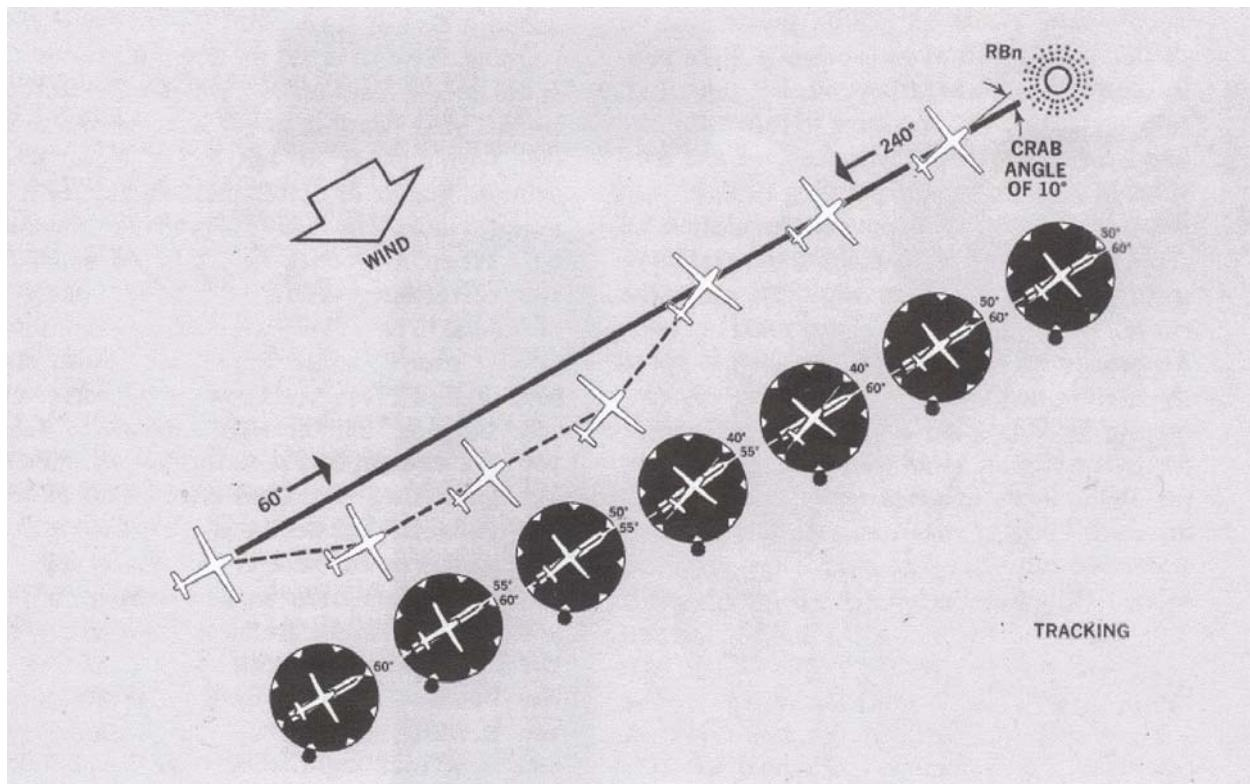

Fig 46: The Sequence for Establishing & Correcting for Drift While Homing to a NDB by use of the ADF
4.7.4.2.3 A better way to "home" using an ADF is to fly directly toward the NDB until the drift angle can be established. Then apply the drift correction & fly the assumed correct RB, & track directly to the transmitting beacon, as shown in Fig 46